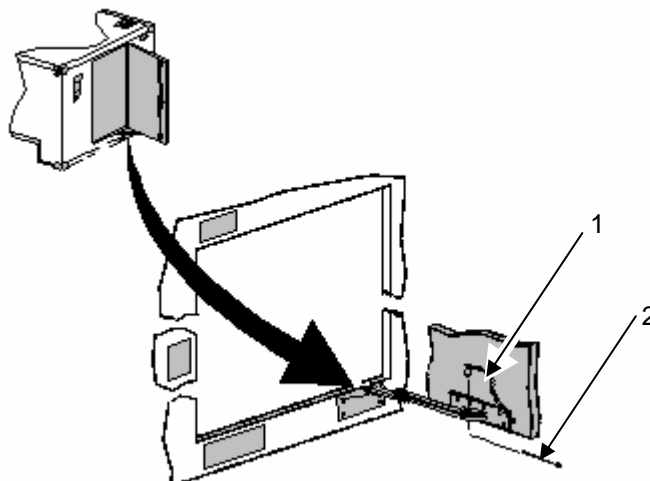

Figure 2. Door stop.
3. Remove cotter pin (figure 2, item 2) and then the chain and pin assembly (figure 2, item 1).
7. Place hinges in the normal position against the door, and install screws (figure 2, item 7) in hinges.
8. Install bolts (figure 2, item 8), lock washers (figure 1, item 9) and flat washers (figure 1, item 10).
10. Install chain and pin assembly with cotter pin (figure 2, item 1 & item 2).